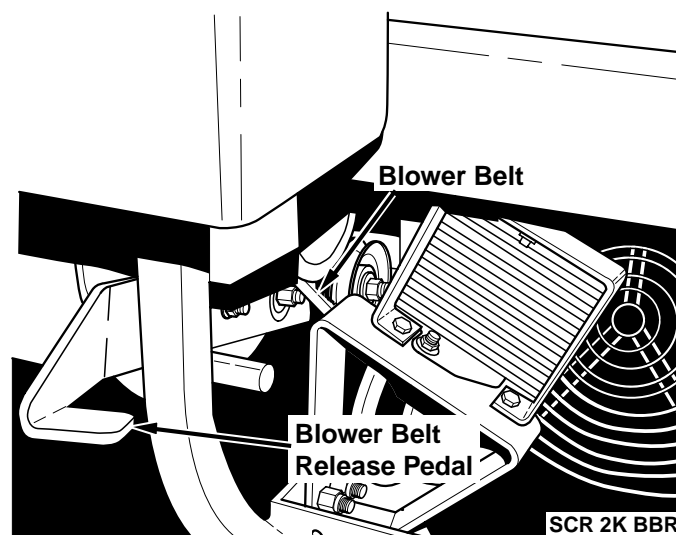
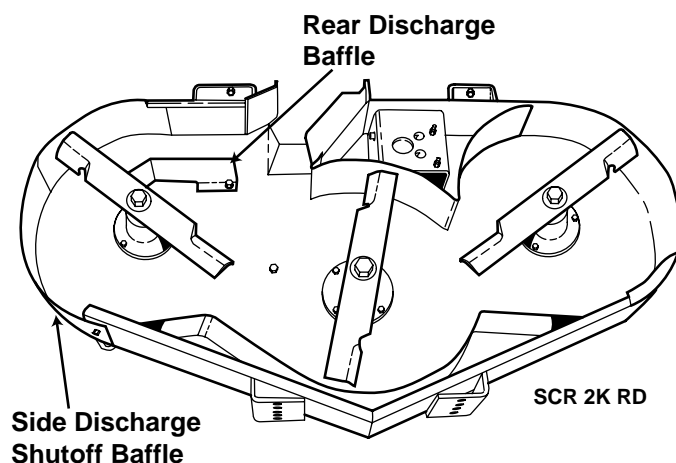

Figure 4-8 Blower Belt Release
Figure 4-9 Baffles for Rear Discharge
When mowing with the cutting deck setup for rear discharge into the hopper (Figure 4-9), the blower belt must be installed. A control lever located on the left side of the tractor (Figure 4-8) will release tension on the idler pulley to allow the belt to be installed (grass catching operation) or removed (mulching or side discharge operations). The cutter deck must also be adapted to the type of cutting that the operator is attempting to perform.
2. Release the tension from the blower belt and remove the blower belt. (Figure 4-8, Page 15).